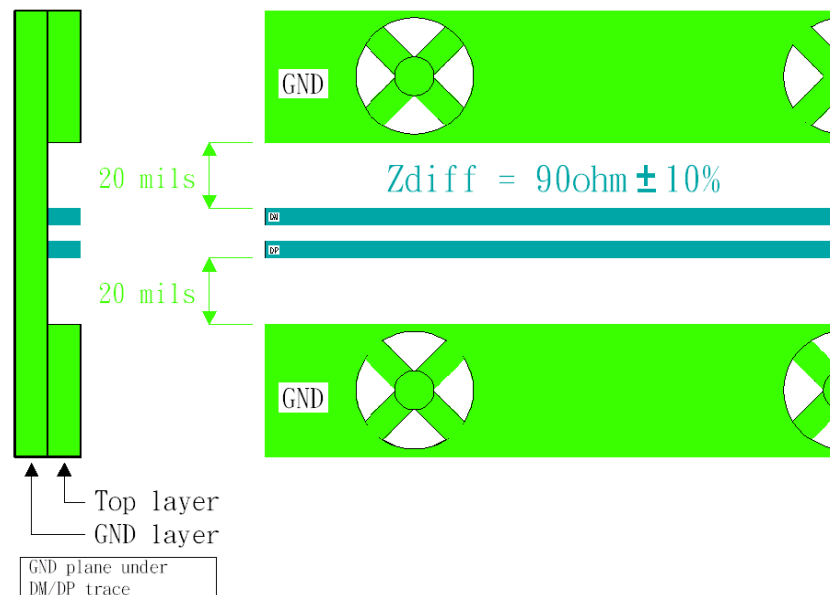

Figure 3. USB Differential Pairs
- Maintain at least 20 mils air gap to the edge of the reference plane (guard ground) when the traces run parallel to the plane edge (see Figure 3, page 8)